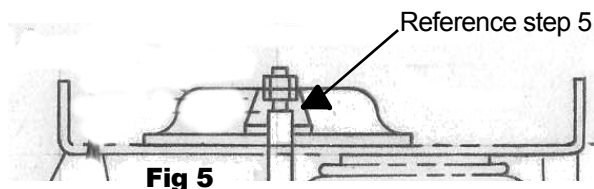

Fig 5
Step 5: Adjust lock nuts to 1/2" above lift cable tube to achieve 1/2" (12.7) clearance. This 1/2" slack is necessary for proper operation of the suspension lift cables (fig 5).